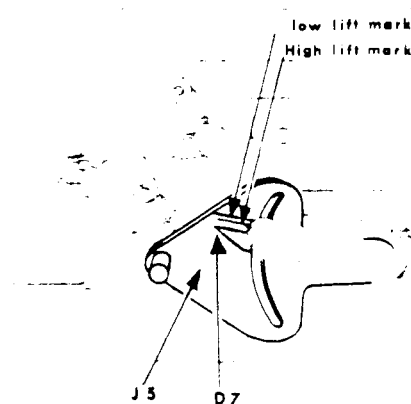
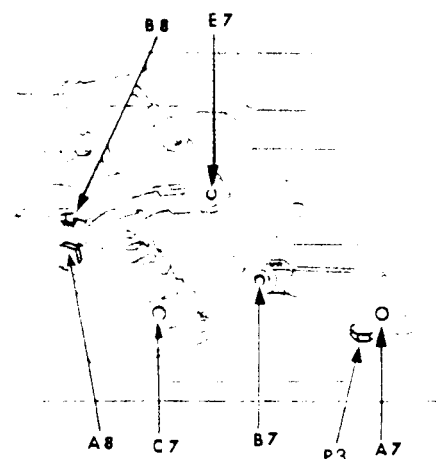
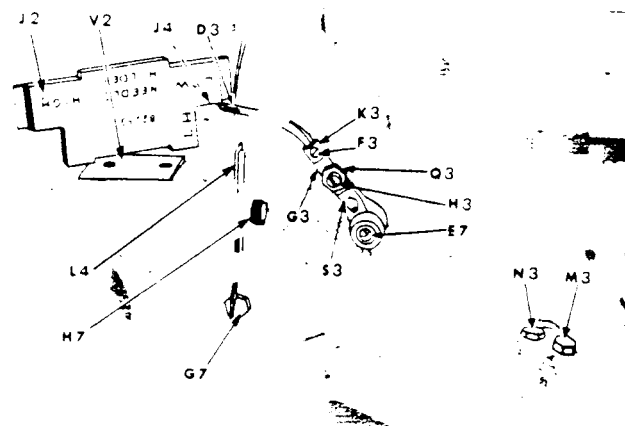

Fig. 39. To Position Gauge 165253.
Fig. 40. To Position Gauge 165253 - Cont'd.
Fig. 41. Adjustments.
Install gauge J5 (Fig.39, Page 21) with threaded pin in looper (right hand) driving shaft hole (A7-Fig.40) and the (2) remaining pins in holes B7 and C7 (Fig. 40).
When looper or spreader carrier is at its highest position, indicator (D7-Fig. 39) should be at the upper line on gauge for low-lift machines, (Nos. 460/12, 460 13, 460/14, 460/16, 460/20, 460/22). For high-lift machines, (Nos. 460/15 and 460 21) looper or spreader carrier is at its highest position when indicator D7 is at lower line on gauge.
To move right looper towards right, first loosen set screw N3 Fig. 41 two or three turns, then loosen clamping screw M3 Fig. 41 just enough to allow movement of looper assembly.
To move right looper towards left, first loosen set screw P3, Fig. 40 two or three turns.
When correct setting is obtained securely tighten clamping screw M3 Fig. 41, and then carefully tighten the set screws N3 Fig. 41 and P3 Fig. 40 an equal amount so that looper position is not disturbed.
Note: These allowances are possible provided the right hand looper carrier connecting link hinge pin E7 Fig. 41 is in contact with machine frame wearing plate. After each adjustment is made to eliminate looper side-wise play, the hinge pin set screw must be securely tightened with Allen Key No. 81440.
Place gauge J2 firmly upon throat plate seat V2 with end marked "LOW" toward needle, as shown in Fig. 41, Page 21.
Note: When installing a right looper (or spreader), loosen nut Q3, Fig. 41 and turn screw H3 anti-clockwise to align the screwdriver slot in head of screw H3 with centre-line of looper carrier S3, as shown in Fig. 41. Then loosen screw F3. Place collar K3 on looper shank and insert right looper in looper holder G3, as shown in Fig. 41.
Loosen screw F3 and nut Q3, Fig. 41
Right looper (or spreader) D3 should pass just behind left looper head and in front of needle; brushing lightly on needle. Additional adjustment for left to right position behind left looper head is provided by the hexagon head screw G7 Fig. 41.
Loosen screw H7 Fig. 41 and move Knife (stationary) L4 Fig. 41 upwards. Loosen hexagon head screw G7 and move screw up or down in the slot as required. Re-check looper (or spreader) settings and carefully reposition knife L4 and retighten screws H7 and G7, Fig. 41.
This setting can be secured by loosening nut A8 Fig. 41 and carefully turning in position screw B8 to make slight contact with the hexagon head screw G7, Fig. 41 Retighten nut A8, Fig. 40.
Loosen nut Q3, Fig. 41.